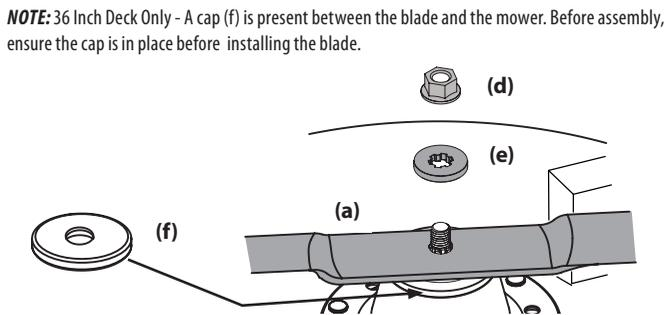

Figure 44
4. Remove the flange nut (d) and flat washer (e) securing the blade (a) to the mower (a) and remove the blade (Figure 44).